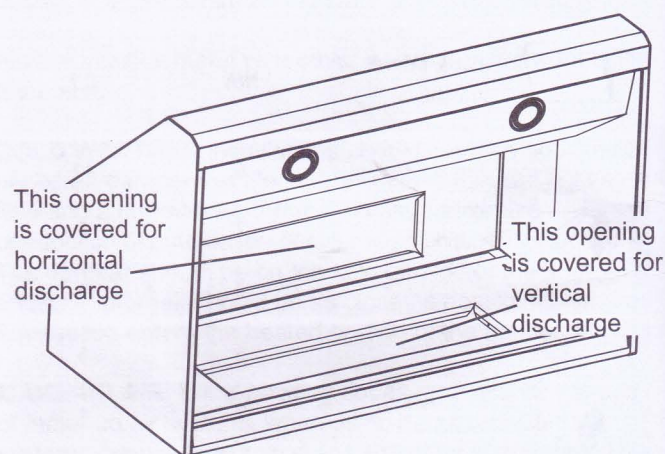

Figure 2: Discharge Direction
The hood is shipped ready for vertical discharge. To change to horizontal discharge, move the discharge cover shown in Figure 2 to the top of the hood. The plate is held in place by (4) screws.